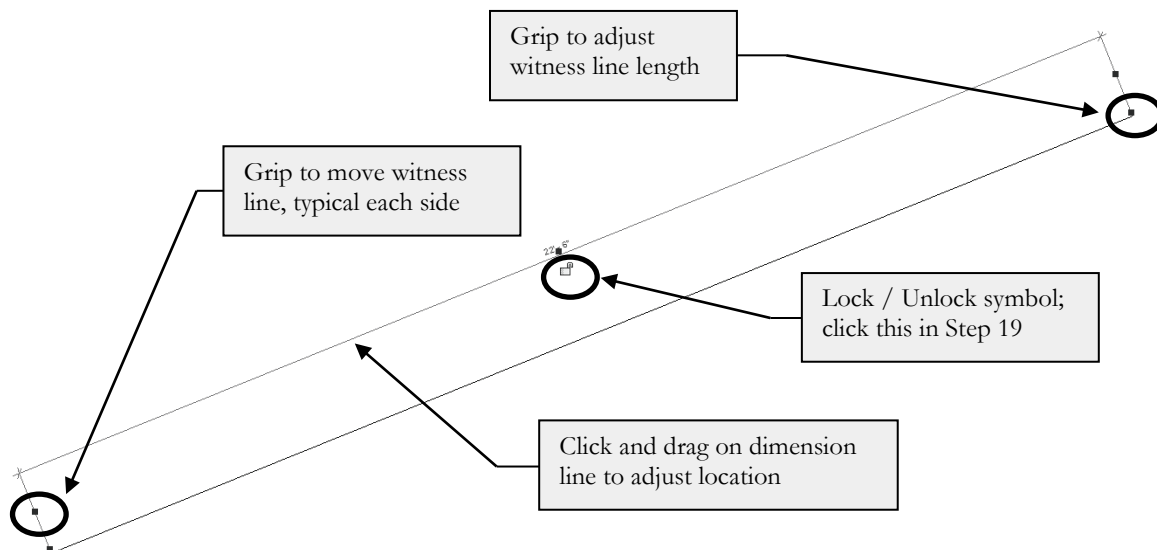

FIGURE 3-1.9 Selected dimension
18. Select the dimension, not the line, and note the following about the selected dimension (Figure 3-1.9).
19. Click on the **Lock/Unlock** padlock symbol to lock the dimension (Figure 3-1.9).